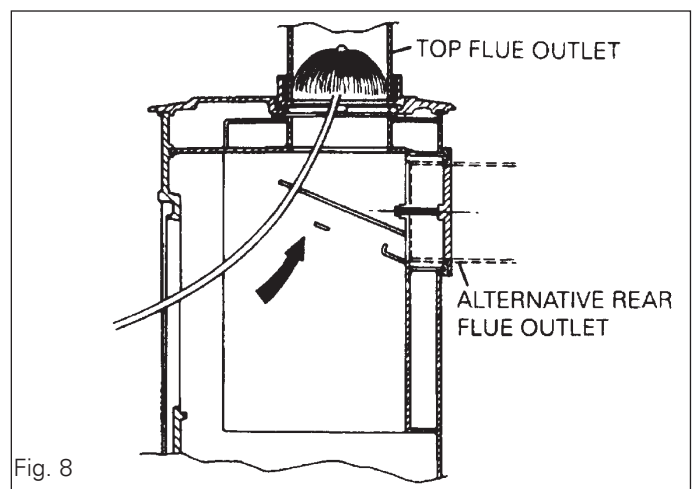

Fig. 8
Insert flexible brush into the top flue outlet and brush deposits downwards into firebox. Fig.8.
**SWEEP ANNUALLY SEE FIGS. 8, 9 AND 10**
- b. Draw throat plate forward about 25mm allowing it to partially swing downward. Support the weight of the throat plate front, lift hinged end about 13mm and draw plate through appliance door aperture. Fig. 8.